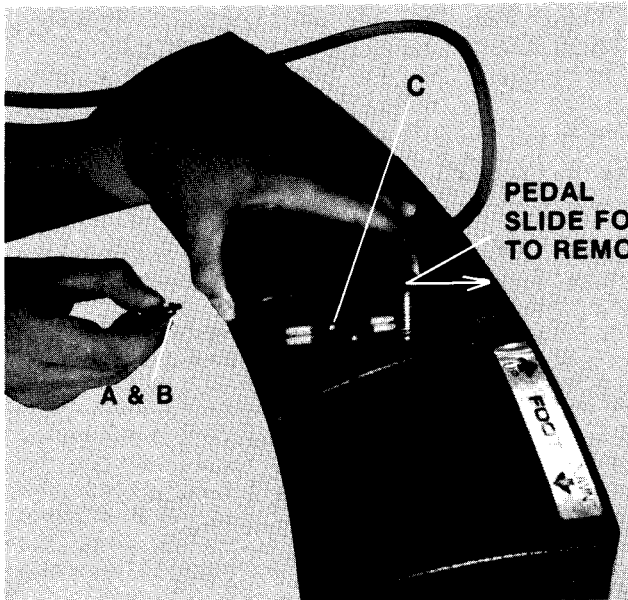

Fig. 39
- 2) Tip switch module out of footswitch casting and remove (1) # 10 Phillips panhead screw from end of foot pedal, Item A, Fig. 39.
- 11) Tip module out of casting and slip foot pedal cover onto pivot on front of switch bracket. Push down back of pedal, align holes, and insert (1) # 10 Phillips headscrew with pivot bushing, Item B, Fig. 39, into hole and tighten.
- 3) Remove (2) # 3 slotted head screws and nuts from switch, Item C, Fig. 39. Pull switch from bracket.
- 4) Place switch into switch bracket and insert (2) # 3 slotted head screws into switch. Place (2) # 3 shakeproof lock washers and (2) # 3 nuts onto screws and tighten, Item C, Fig. 39.